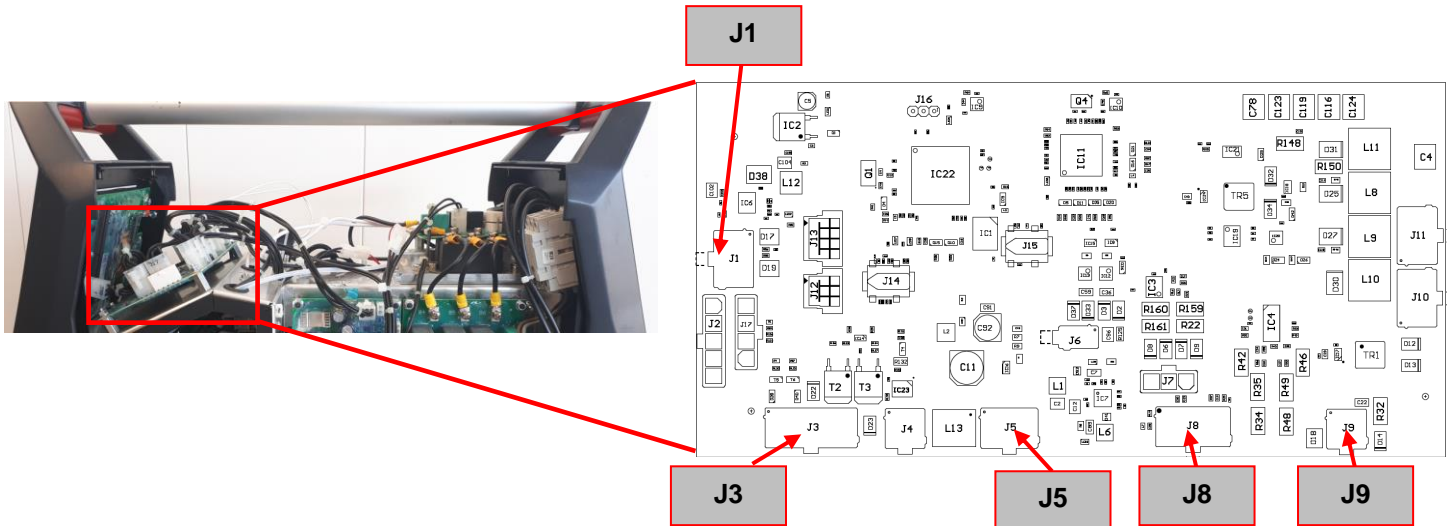

Figure 15 – Control Board location and Test Points
4. Using the multimeter in VDC mode perform the tests as indicated in **Test Table 8**. See **Figure 15** for correct test points location.